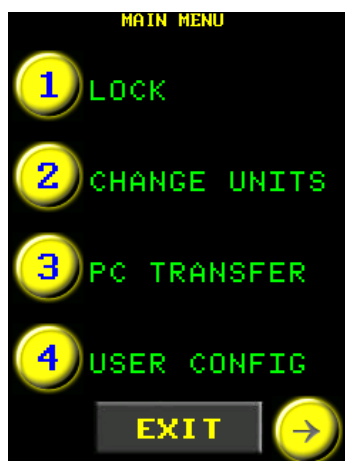

Figure 5.19-1: Main Menu
2. Select “**User Config**” from the Main Menu (Figure 5.19-1).